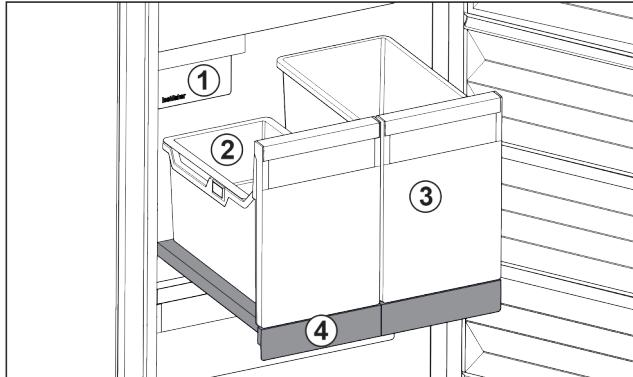

Fig. 98 Pull-out board with IceTower
(1) IceMaker	(3) Container for pizza or alcoholic beverages, for example
(2) Hang-on tray for ice cubes	(4) Pull-out board
There are two high (IceTower) containers on the pull-out board. Ice cubes from the IceMaker are collected and stored in the Fig. 98 (2) container. The container Fig. 98 (3) is suitable for storing tall foodstuffs or beverages such as pizzas or alcoholic drinks.